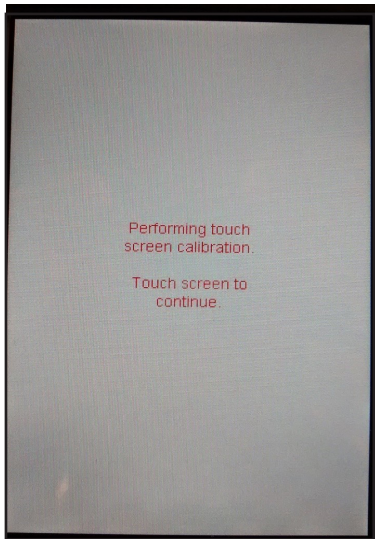

Figure 11 Performing Touch Screen Calibration
- (d). If done correctly, the Screen calibration function appears (Figure 11).